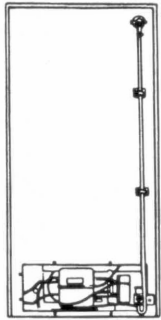

Figure 14
13. Route the Fill tube for the icemaker down the back of the refrigerator (behind the condenser coils, if present). There are mounting clips provided. (see Figure 14)